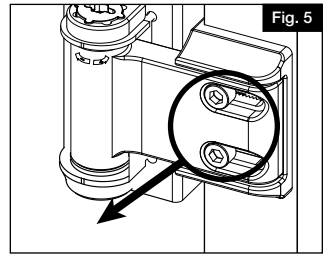

Fig. 5
- a. Using the included allen wrench, remove the two set screws that secure the swing arm to the gate plate (Fig. 5).